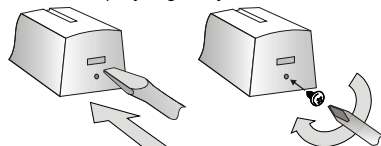

Fig. 2 Opening the detector cover and securing it with a screw
1. Open the detector cover (by pushing the tab - see Fig. 2).